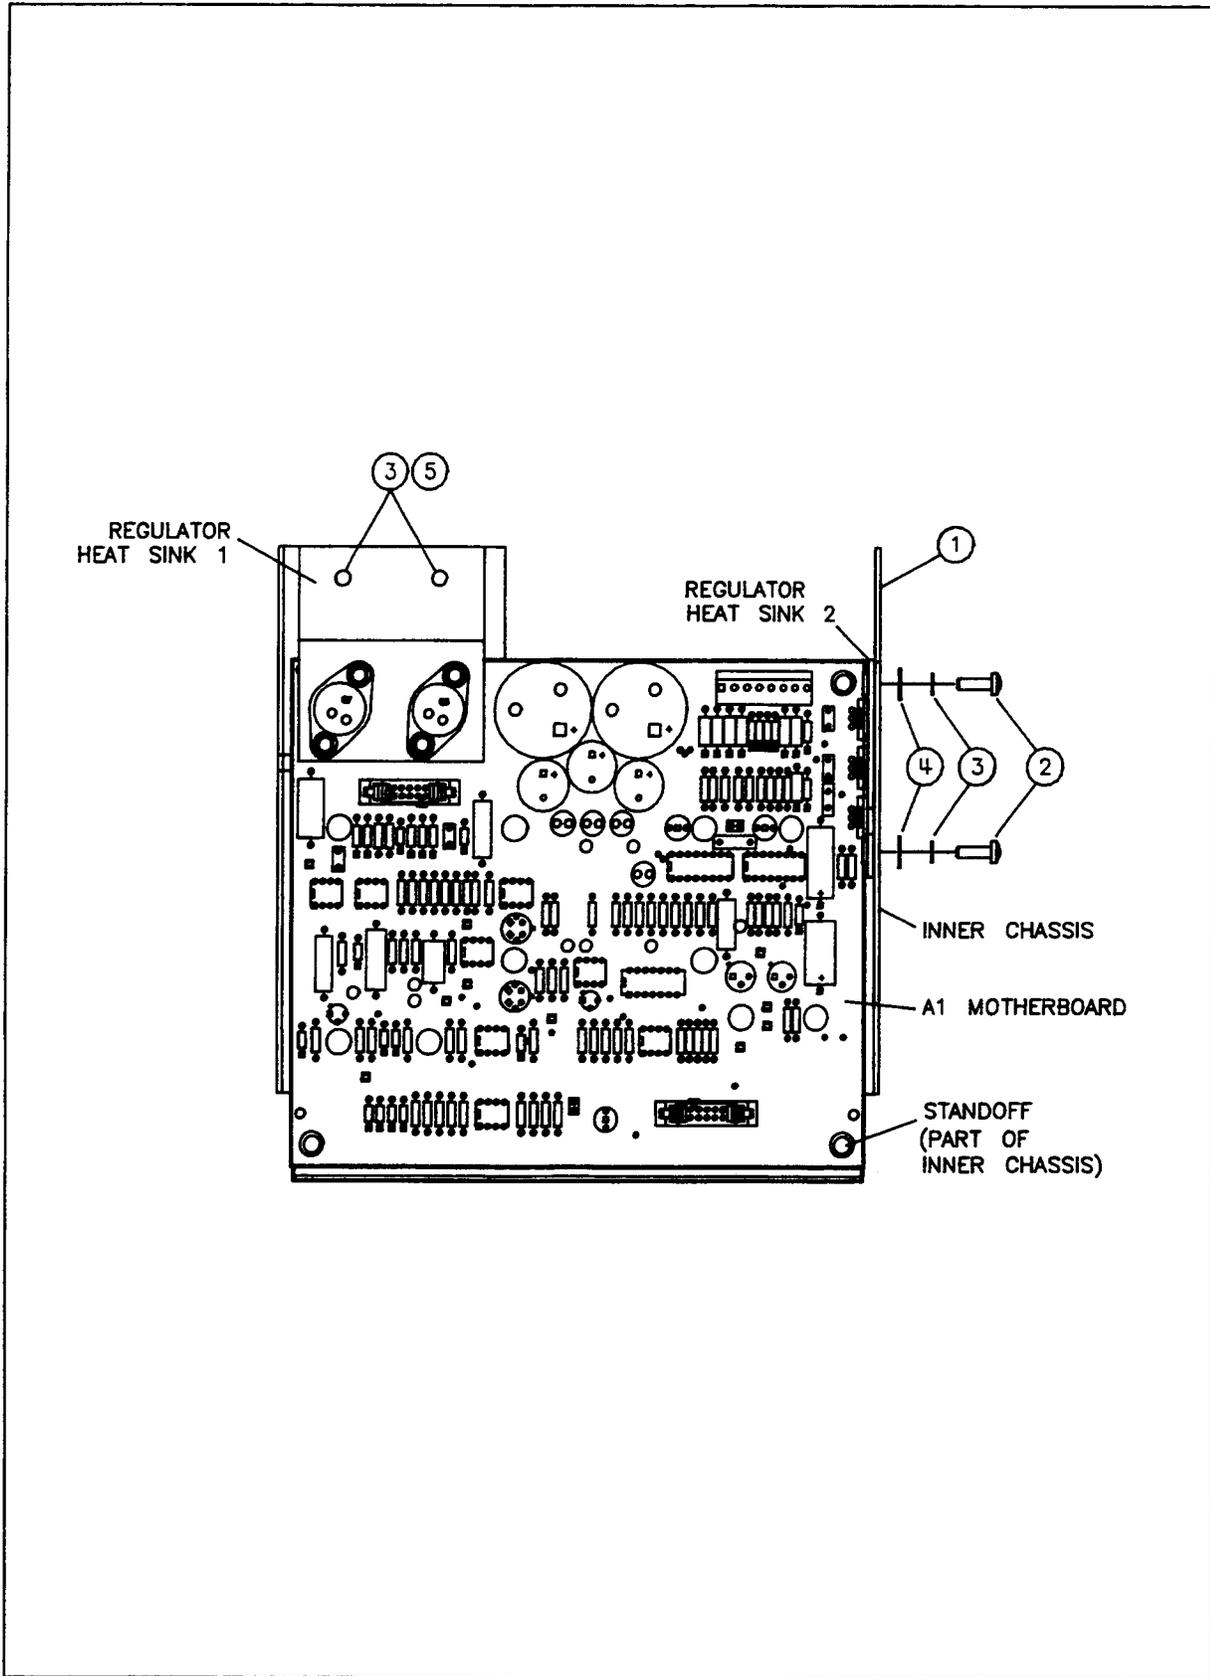

Figure 5-8. A1 Motherboard and Inner Chassis Attaching Hardware
3. Remove the four screws shown in Figure 5-8 as items 2 and 5.